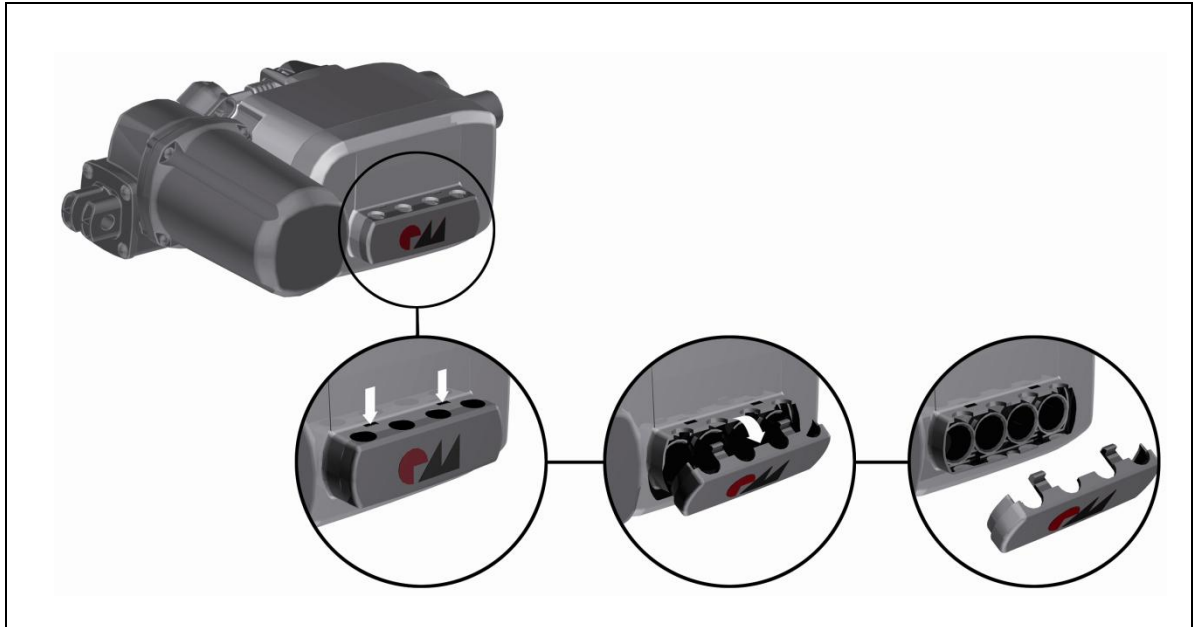

Figure 9 Opening the shield cover on the MC10 control unit
- 2 Use a suitable tool to press both locking clips down in the notches as shown in Figure 9. At the same time, tilt the shield cover forward so that the clips come out of the notches.
- 2 Open and remove the shield cover (refer to Figure 9).
- 2 Use a suitable tool to press both locking clips down into the notches as shown in Figure 9. At the same time, tilt the shield cover forward so that the clips come out of the notches.